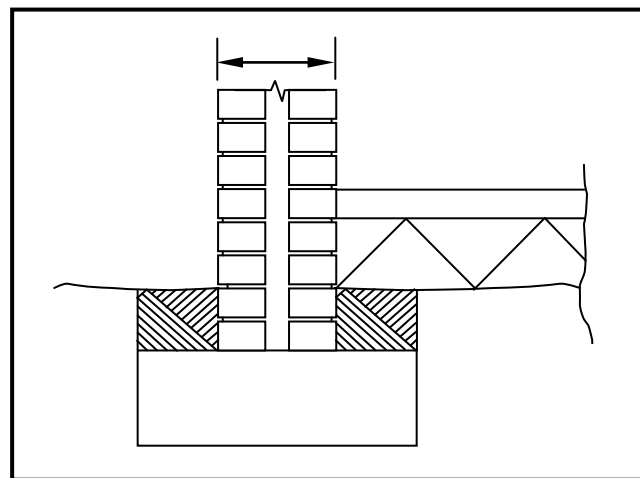

FIGURE 2.10
2.10 FIGURE 2.10 below shows an incomplete sectional view of a cavity wall with a cavity of 50 mm between the walls.